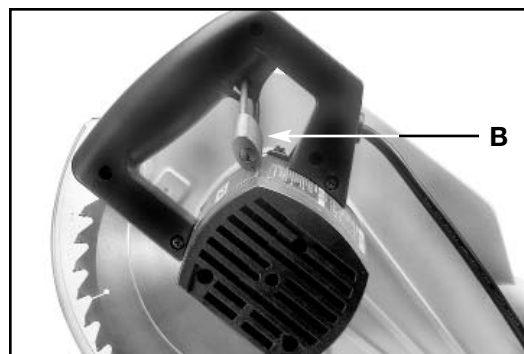

Fig. 11
IMPORTANT: When the machine is not in use, the switch should be locked in the “OFF” position to prevent unauthorized use, using a padlock (B) Fig. 11 with 3/16" diameter shackle.